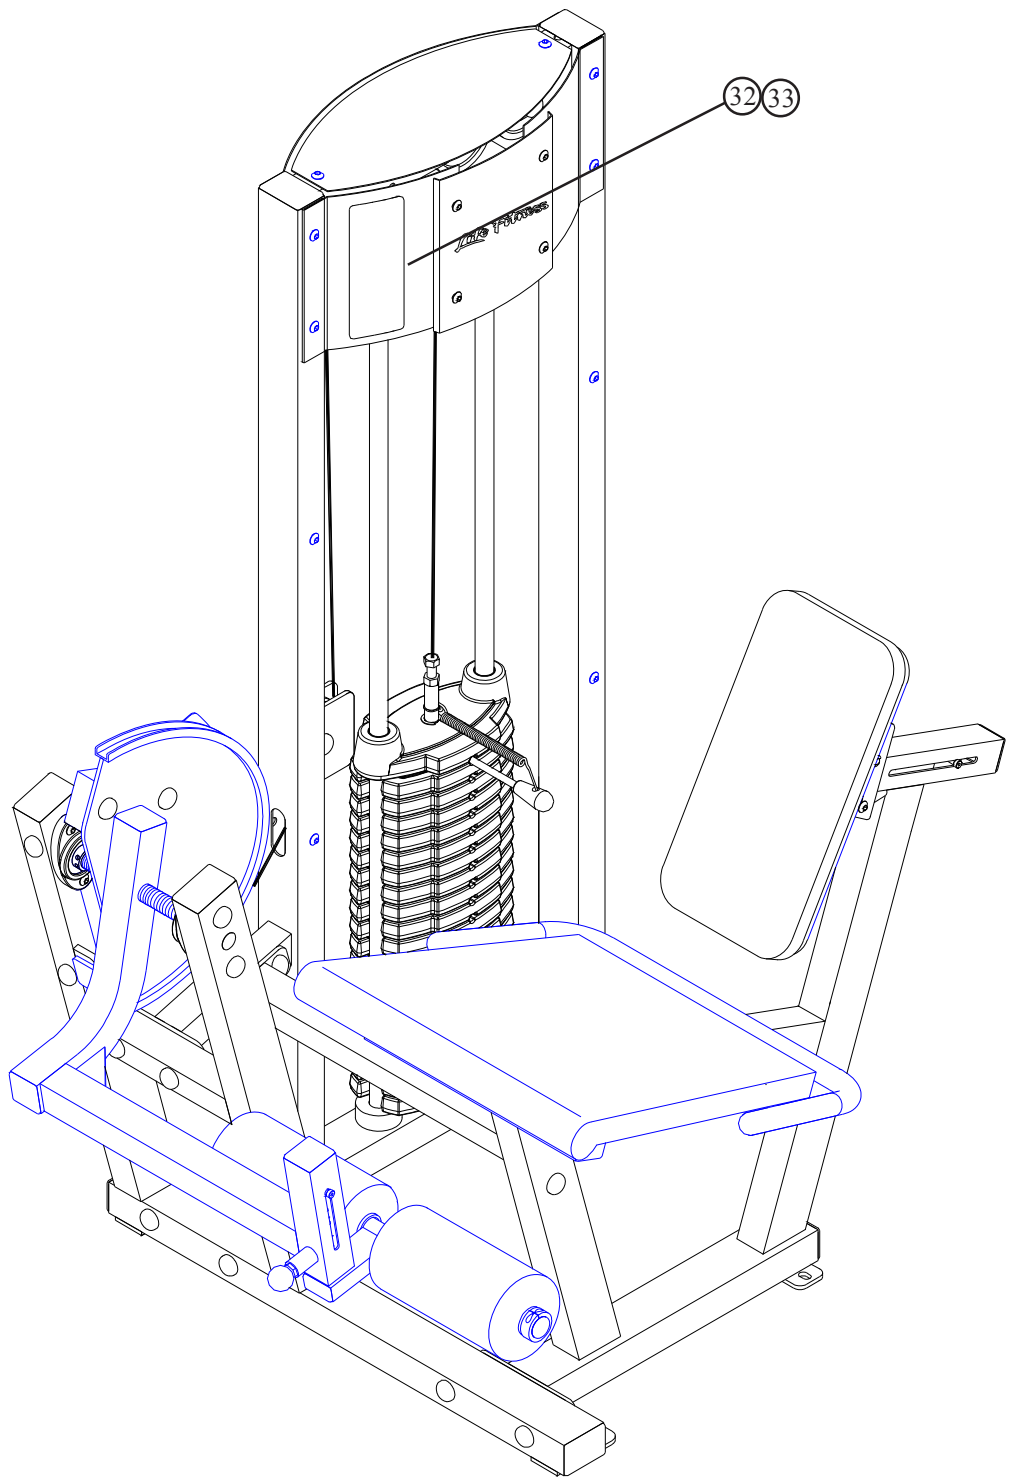

FIGURE 16
- Assemble the PLACARD LABEL (32) or the LANGUAGE ADDENDUM PLACARD LABEL (33) to the FRONT SHROUD as shown in FIGURE 16.